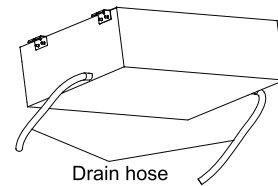

Figure 3-1-10
- (5). Use a suitable drain hose, and see Table 3-2-4 for its size.
- (6). There is a drain port on both the left and right sides. Select
- (7). the drain port to match the local conditions.( Figure 3-1-10)
- (8). When the unit is shipped from the factory, the drain port is
- (9). defaulted to be the one on the left side (electric box side), the
- (10). port on right side has been plugged.
- (11). When using the drain port on the right side of the unit,